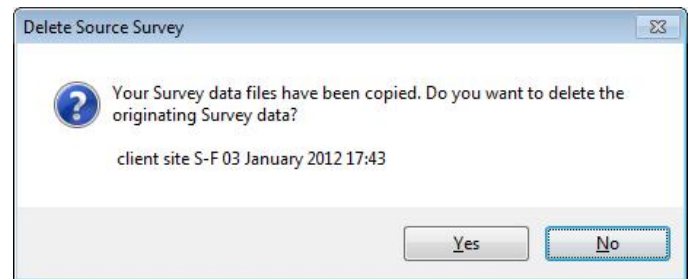

Figure 3.11 Delete Source Survey
7. FSM will offer you the option to delete the originating survey folder (see Figure 3.11). This is recommended to avoid duplicating files in your JOBS folder. Press **Yes** to delete the survey folder or **No** to maintain a copy of it.